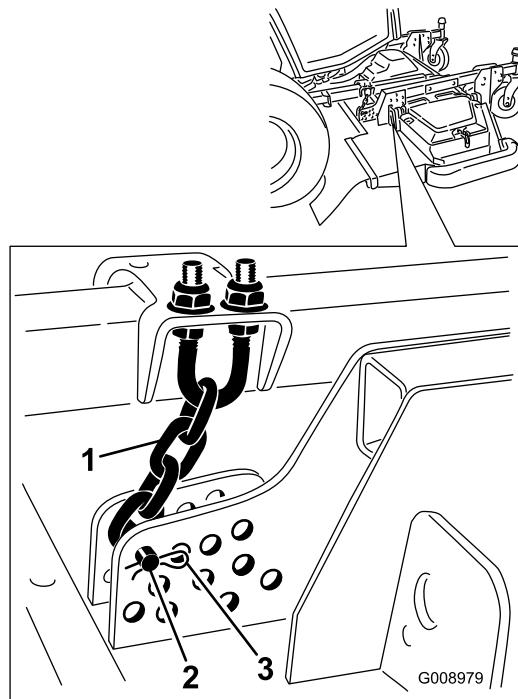

Figure 124
4. Remove the hairpin cotter and clevis pin securing the height-of-cut chains to the rear of the mower deck (Figure 124).